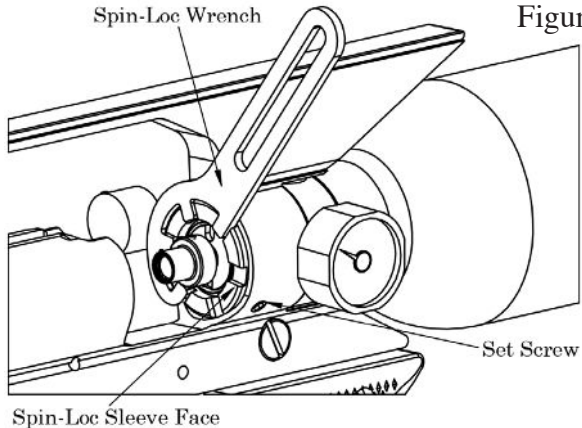

Figure 2
Screw the Spin-Loc Sleeve onto the air tank until it is hand tight. Make sure that the Set Screw is loose and allows the Spin-Loc Sleeve to turn freely. See FIGURE 2.
Use the Spin-Loc Wrench to tighten the air tank in place. Use CARE so you will not scratch your aluminum Frame. See FIGURE 2.
Step 1. Move the Bolt to the cocked position, opening the loading area. SEE FIGURE 2